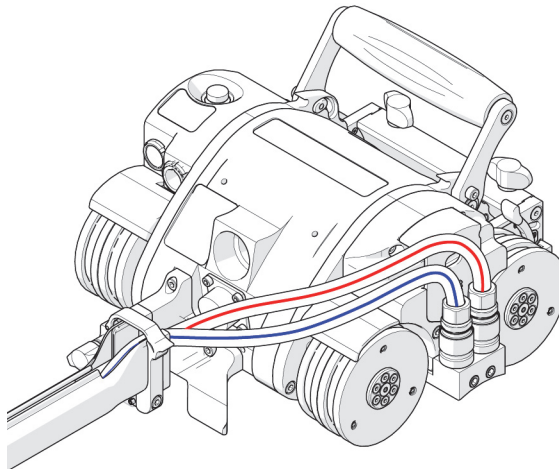

Figure 2-21 Hose routing to crawler
2. Route the hoses through the HT cable management system, and then connect them to the cooler (see Figure 2-21 on page 60)